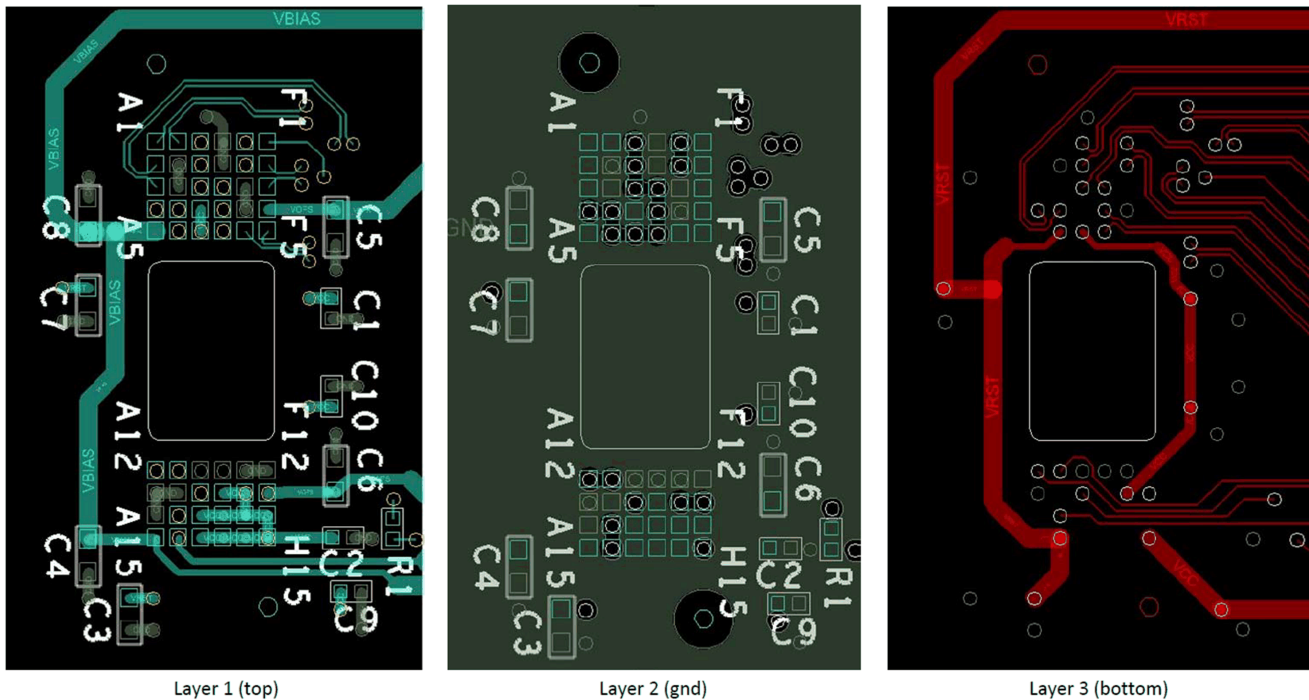

Figure 10-1. Power Supply Connections
- Minimize vias, layer changes, and turns for the HS bus signals. Refer to Figure 10-1.
- Minimum of two 100-nF (25 V) capacitors - one close to V_{BIAS} pin. Capacitors C4 and C8 in Figure 10-1.
- Minimum of two 100-nF (25 V) capacitors - one close to each V_{RST} pin. Capacitors C3 and C7 in Figure 10-1.
- Minimum of two 220-nF (25 V) capacitors - one close to each V_{OFS} pin. Capacitors C5 and C6 in Figure 10-1.
- Minimum of four 100-nF (6.3 V) capacitors - two close to each side of the DMD. Capacitors C1, C2, C9 and C10 in Figure 10-1.